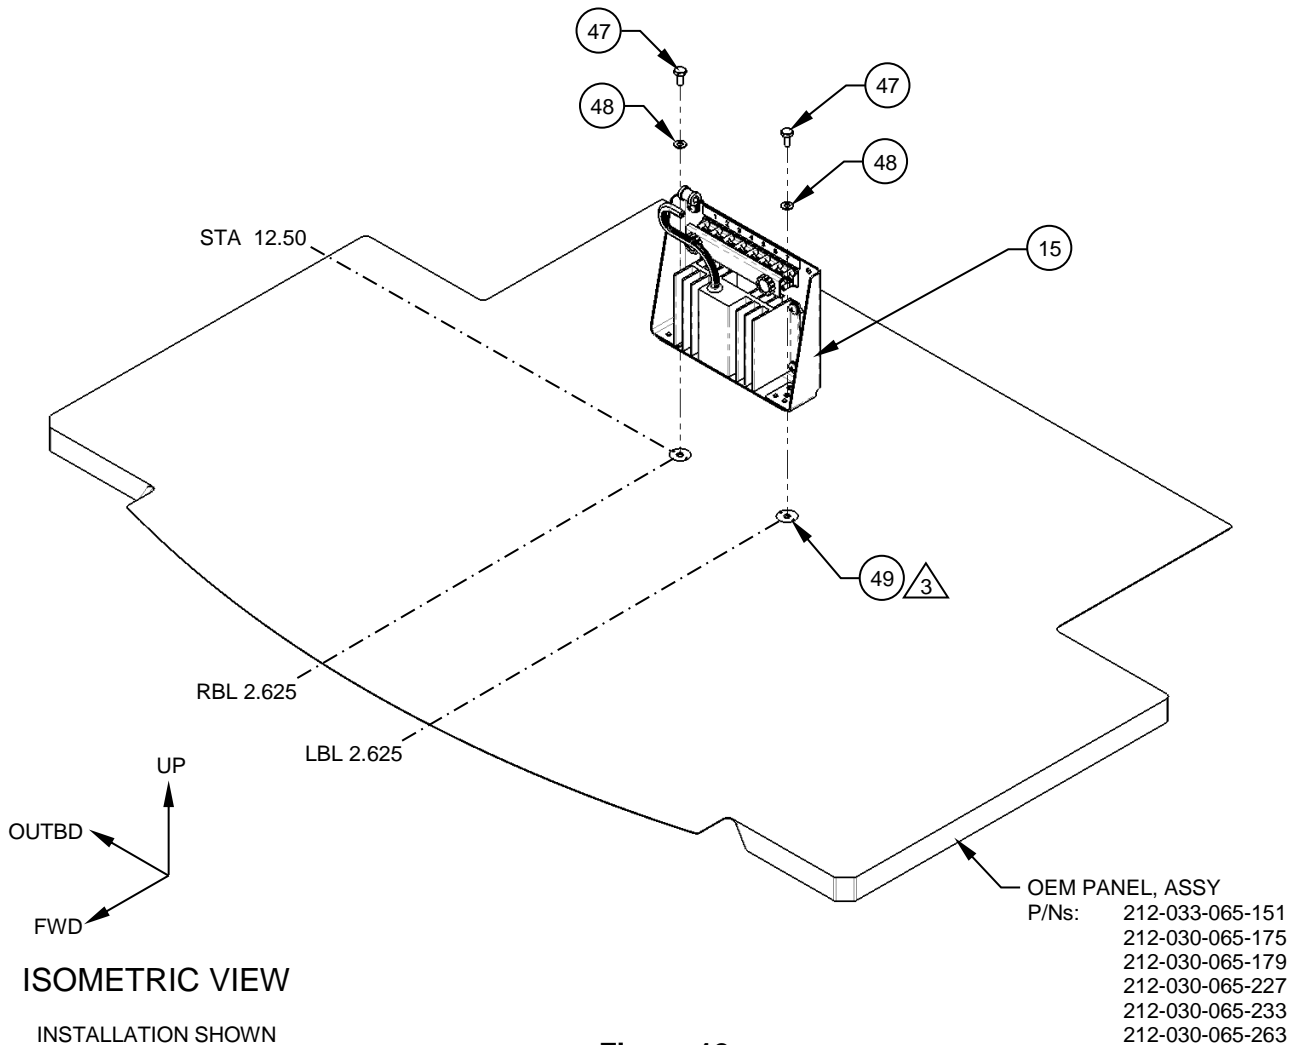

Figure 12
23. Install the inserts (Item 49) in the upper side of the OEM inverter bay panel assy as per standard practices outlined in Bell Structural Repair Manual BHT-MED-SRM-1. Reference Figure 12.
24. Install the Control Unit, Assy (Item 15) with the supplied hardware as shown. Reference Figure 12.